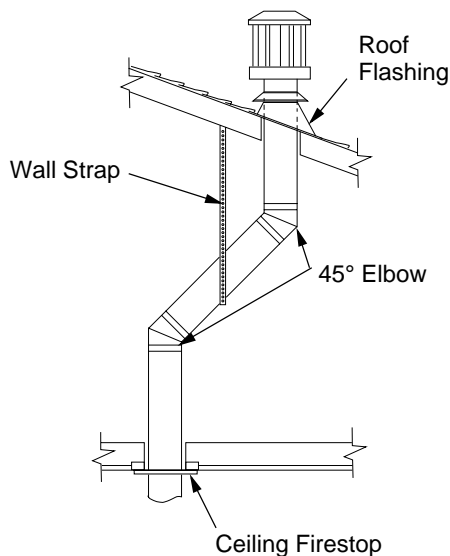
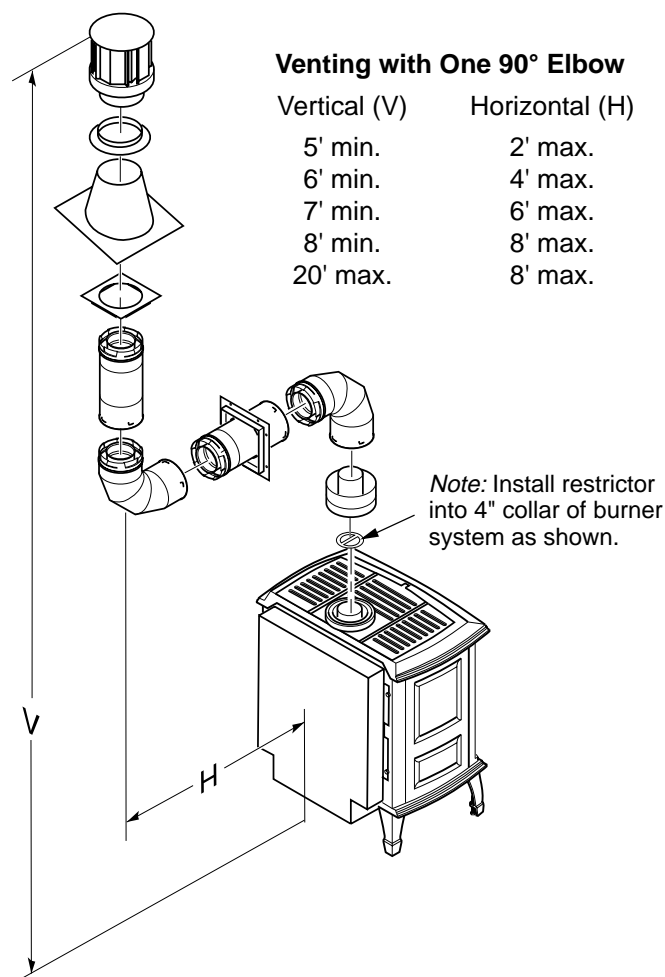

Figure 32 - Offset with Wall Strap and 45° Elbows
Figure 36 - Vertical Venting Configuration Using One 90° Elbow
1. Determine the route your vertical venting will take. If ceiling joists, roof rafters, or other framing will obstruct the venting system, consider an offset (see Figure 32) to avoid cutting load bearing members. **Note:** Pay special attention to these installation instructions for required clearances (air space) to combustibles when passing through ceilings, walls, roofs, enclosures, attic rafters, etc. Do not pack air spaces with insulation. Also note maximum vertical rise of the venting system and any maximum horizontal offset limitations. Offsets must fall within the parameters shown in Figures 36 through 38, pages 17 and 18.
Note: If an offset is needed to avoid obstructions, you must support the vent pipe every 3 feet. Use wall straps for this purpose (see Figure 32). Whenever possible, use 45° elbows instead of 90° elbows. The 45° elbow offers less restriction to the flow of the flue gases and intake air.
5. Place the flashing over the pipe section(s) extending through the roof. Secure the base of the flashing to the roof and framing with roofing nails. Be sure roofing material overlaps the top edge of the flashing as shown in Figure 32. There must be a 1" clearance from the vent pipe to combustible materials.
Figure 36 through 39 show four different configurations for vertical termination. All connections must be sealed with high temperature silicone sealant as specified in the second warning statement on page 12.